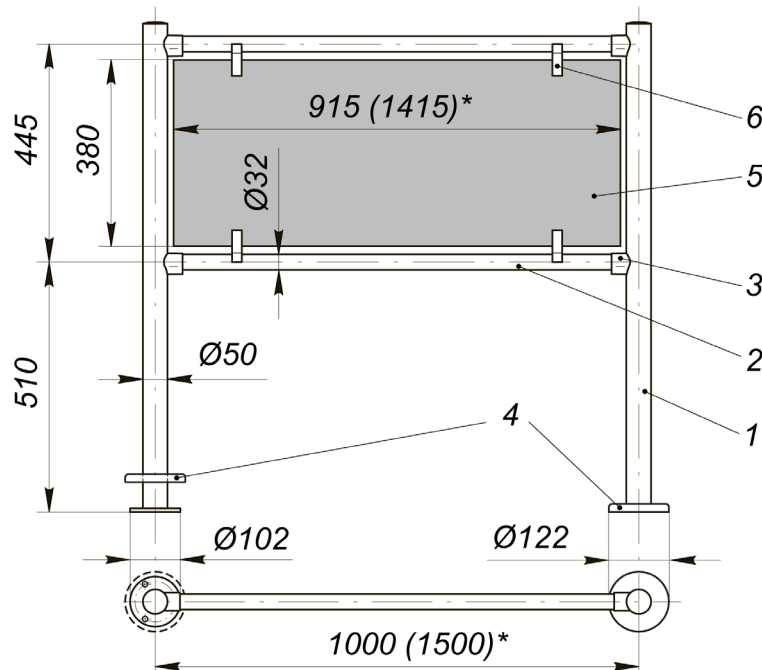
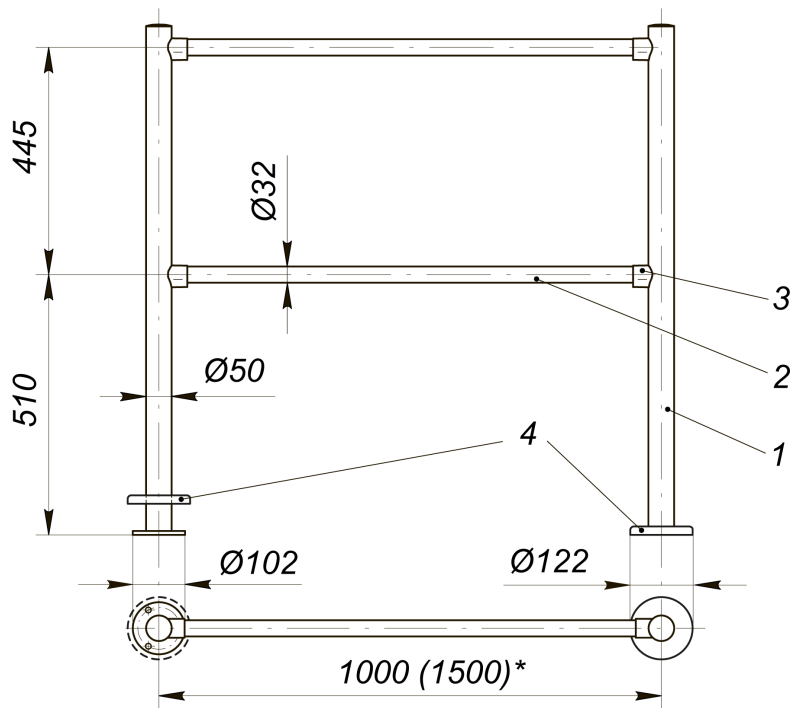
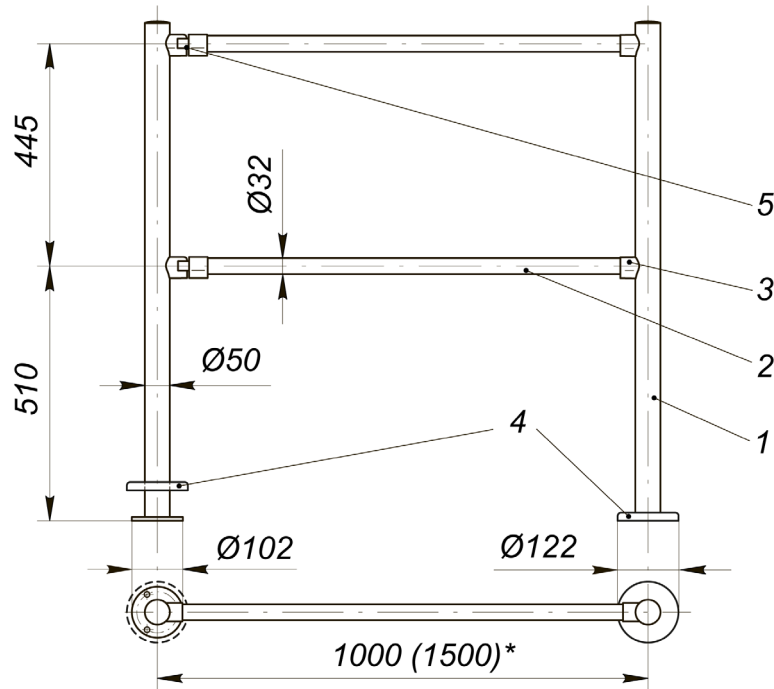

Figure 1. Stationary railing section with filler panel¹:
Figure 2. Stationary railing section without filler panel¹:
Figure 4. Stationary railing section without filler panel and with adjustable coupling fittings¹:
- **Stationary railing section** with filler panel (see Figure 1) or without filler panel (see Figure 2 and Figure 4), designed to form passageways. The filler panel is made of tinted glass or polycarbonate sheet.
Types of railing sections and their dimensions are shown at Figures 1 – 7. Elements with asterisked dimensions are produced in several versions (see Tables 2 - 4).
¹ see Table 2 for variants, fastening the filling of the section is the same as in Fig. 1